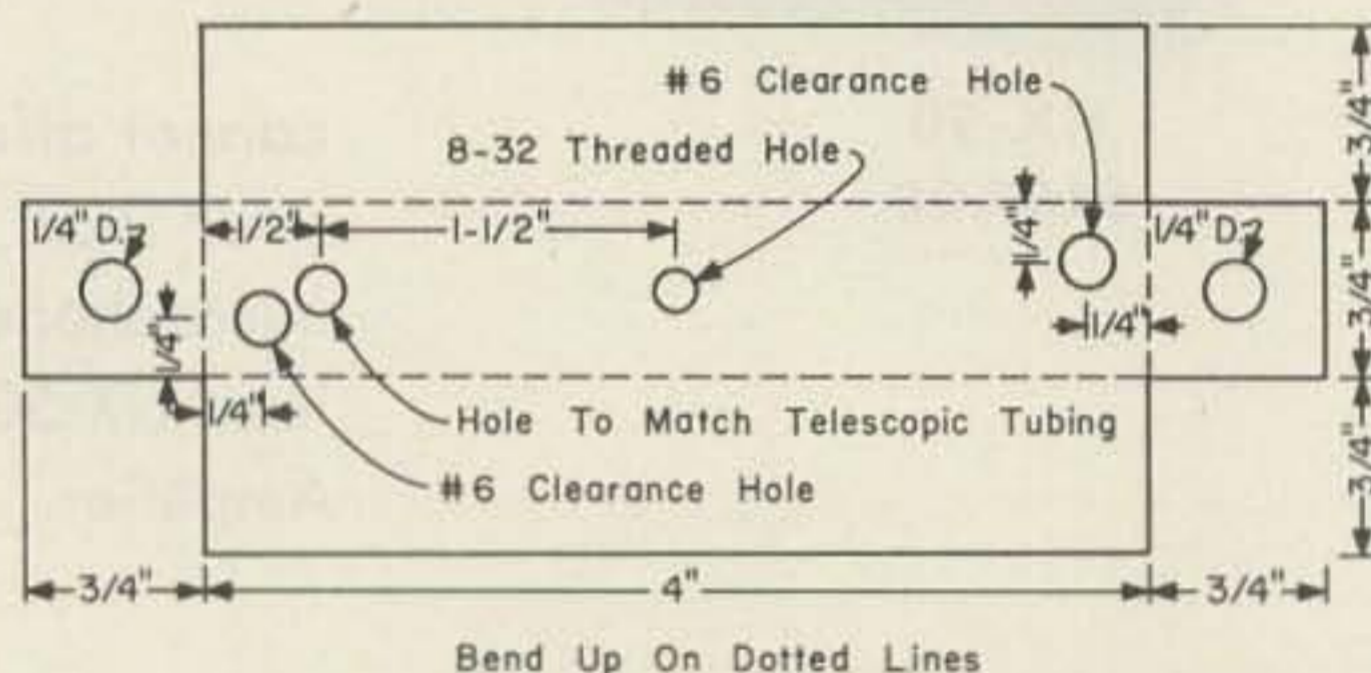

FIGURE 2
2. A *speaker mike.* (See Fig. 2.) The value of R is such that 1/2 the supply voltage will
The next piece to fabricate is the  $\frac{\lambda}{2}$  line tank for 1296 mc. This was also bent from .030 sheet brass stock so that an open trough measuring 3/4" by 3/4" by 4" resulted. The corners are soldered for rigidity and holes drilled before bending as indicated in Fig. 2.